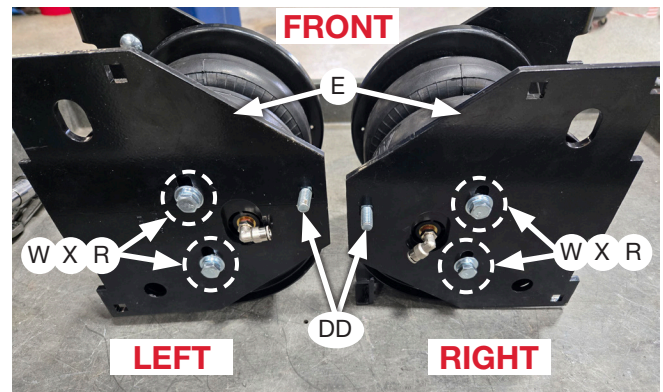

Fig. 8
2. Insert two (2) 3/8"-16 x 1" carriage bolts (DD) into the square holes on the brackets, then secure the upper air spring brackets (E) onto the top of the air springs using (4 of each) 3/8"-24 x 7/8" hex bolts (W), 3/8" lock washers (X) and 3/8" flat washers (R). At this stage, the air spring assemblies are left- and right-hand units. Push the brackets as far forward as possible (Fig. 8). Torque the hardware to no more than 20 lb.-ft. (27Nm).